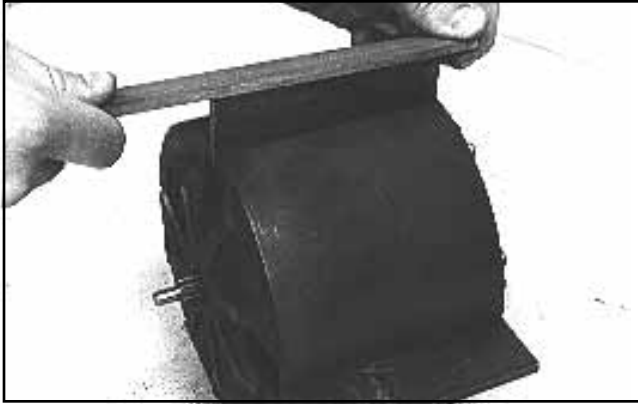

Figure 57
- Figure 57 shows the proper manner in which to accomplish this filing operation. Use a vise with soft jaws or otherwise properly protect the blade held by the vise.